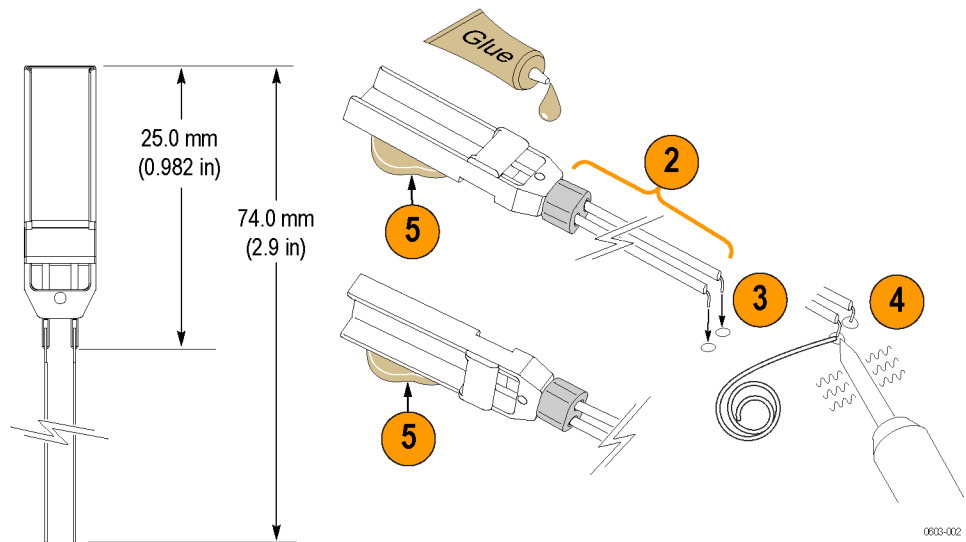

Figure 7: Install the wide body adapter on the PCB
5. Identify where to place the wide body adapter on the PCB and glue it into place. (See Figure 7 on page 12.)